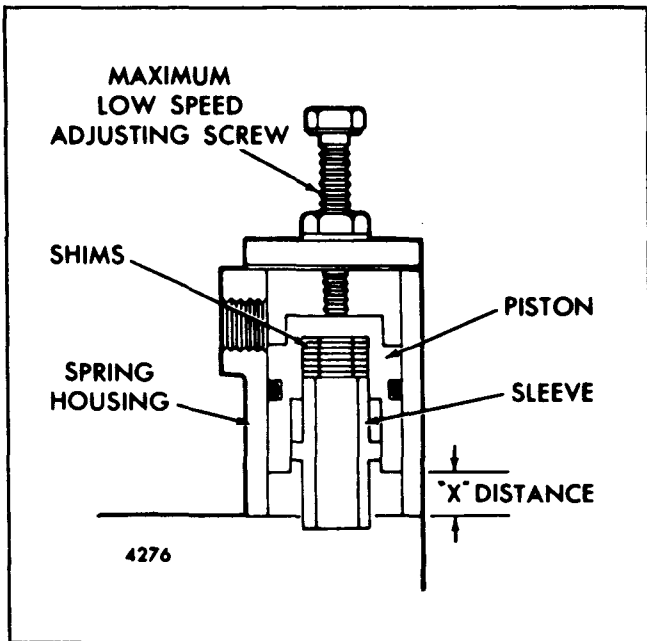

Fig. 6 - Dual-Range Governor (Top View)
ENGINES WITH DUAL-RANGE LIMITING SPEED MECHANICAL GOVERNOR (Fig. 6)
d. Note the distance ("X" distance, Fig. 6) the piston is from the bottom of the spring housing when it is against the low maximum speed screw, then remove the sleeve from the piston.